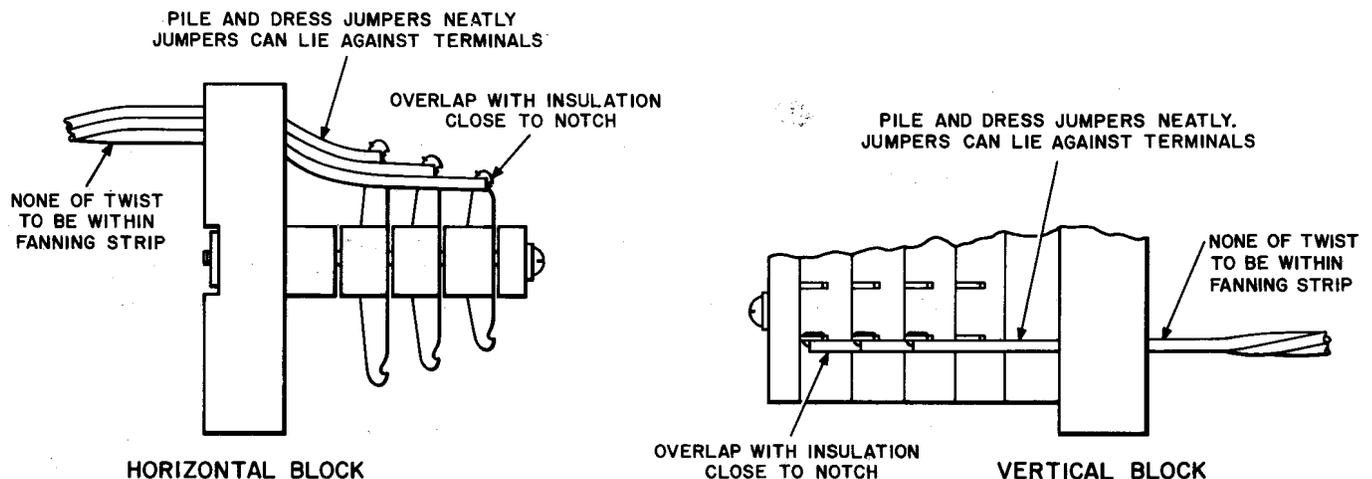

Fig. 1—Termination of Distributing Frame Wire on Terminal Strip
**7.02** When terminating jumpers, hold the wire back of the fanning strip and adjust the wire so the insulation is close to the terminal notch. Wrap the wire around the terminal in the notch and solder. Break or cut off the excess wire. Figures 1 through 9 show typical terminations.
7.10 When terminating jumpers on the type terminal strip shown in Fig. 1, connect the wire on the terminal nearest the front first and work towards the rear of the block. An exception to this procedure is in the case of IDF jumpers of subscriber lines in dial offices.